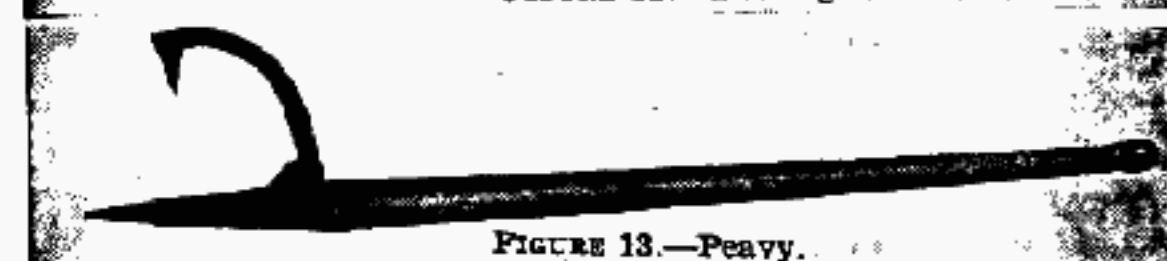

FIGURE 13.—Peavy.
j. Peavy (see fig. 13).—The peavy is a gripping and level-action tool, used to roll, haul, or carry heavy timber. To